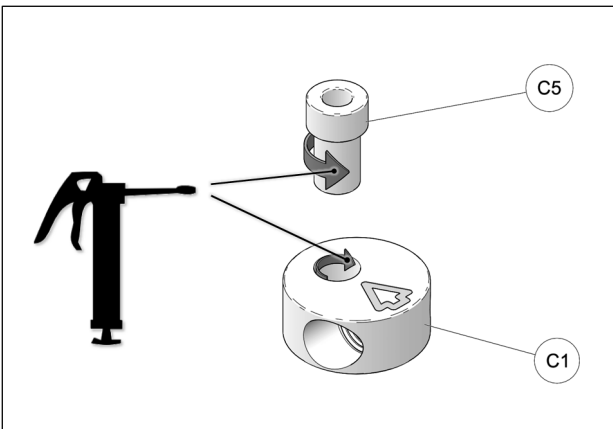

Fig. 21
11. Apply grease evenly all around step spacer bushing (C5) and in hole of aluminum disk (C1) when assembling these parts together. See Fig. 21